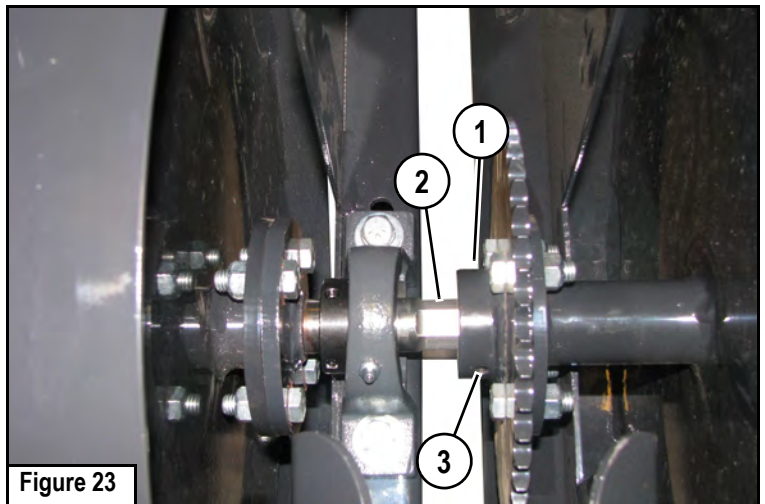

Figure 23
20. Slide the sprocket hub (Item 1) onto the adapter shaft (Item 2). **[Figure 23]**
24. Tighten the sprocket hub set screws (Item 3). **[Figure 23]**